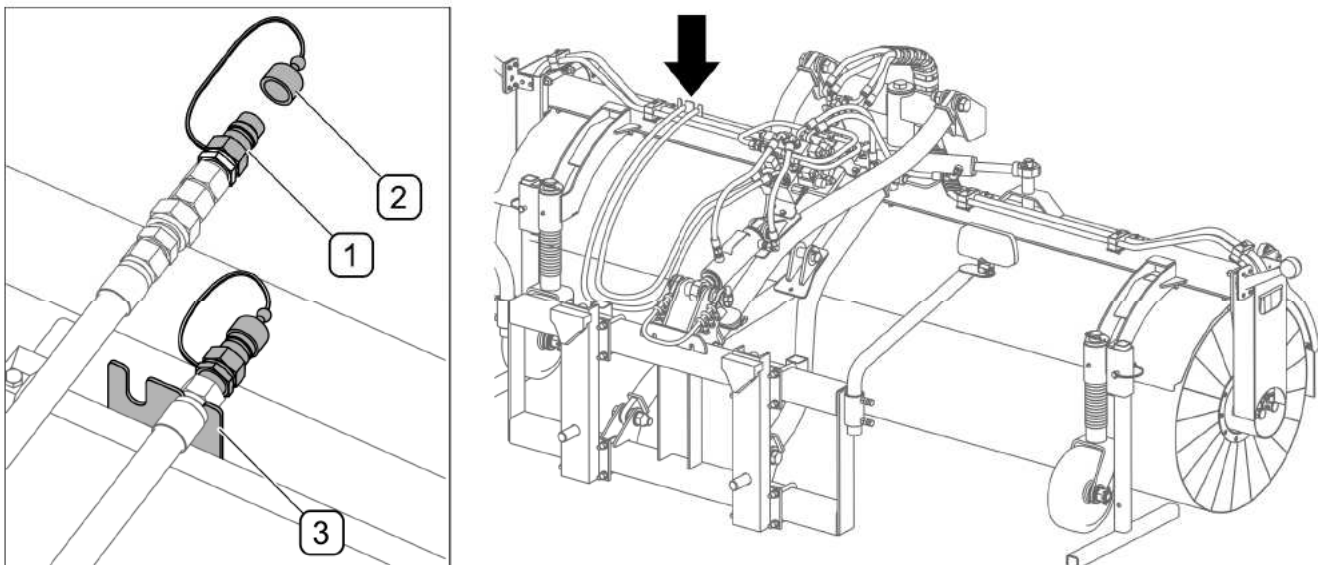

FIG. 4.19 Protecting hydraulic conduit connectors (ZM-S25)
- 5) Disconnect power supply plug from the carrying vehicle. Disconnect hydraulic conduit connectors (1) from the carrying vehicle, secure them with stoppers (2) and place in bracket (3) on the brush frame (FIG. 4.19). Control panel should be disconnected from the machine and protected against adverse weather conditions.